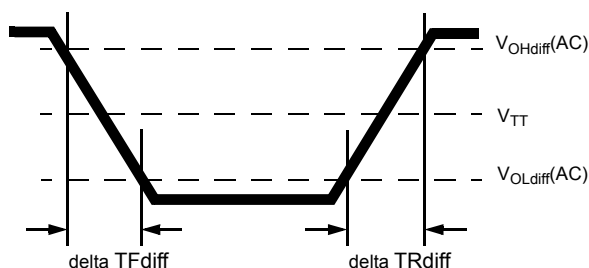

Figure 7. Differential Output Slew Rate Definition
With the reference load for timing measurements, output slew rate for falling and rising edges is defined and measured between VOLdiff(AC) and VOHdiff(AC) for differential signals as shown in Table 14 and Figure 7.
The reference load for ODT timings is defined in Figure 7.